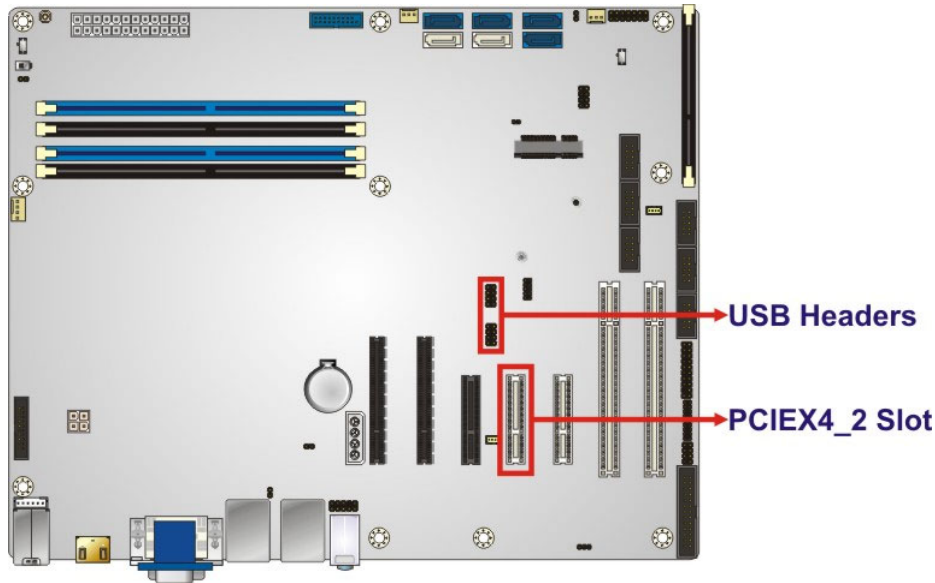

Figure 4-14: PCIEX4_2 Slot and USB Header Locations
Step 1: Install the expansion card to the **PCIEX4_2** slot on the motherboard. Align and insert the PCIe edge connector on the bottom of the expansion card to the **PCIEX4_2** slot (**Figure 4-14**) on the IMBA-Q170-i2. Then, push down gently on the expansion card to make sure it is firmly inserted into the **PCIEX4_2** slot.
Step 2: Connect the included USB cables to the expansion card and motherboard. Connect the two included USB cables to the USB headers (USB1 and USB2) on the expansion card and motherboard (**Figure 4-14**).